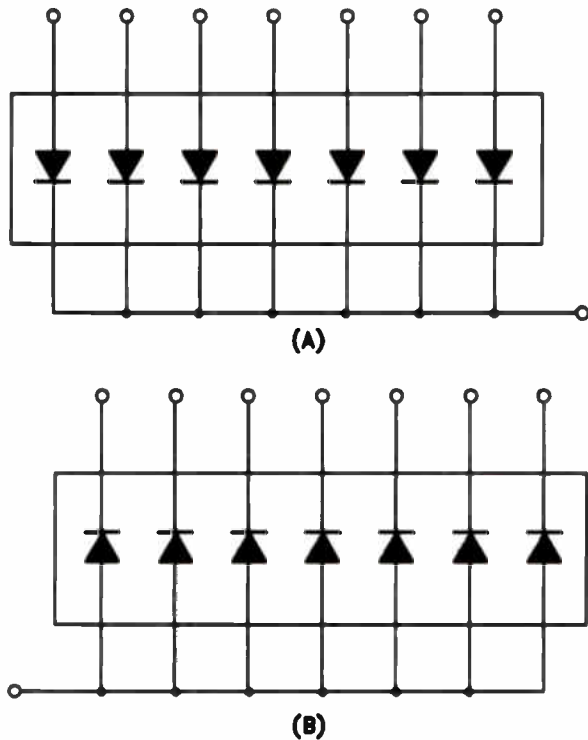

Figure 21. (A) Schematic of a common-cathode seven-segment display, and (B) schematic of a common-anode seven-segment display.
In a seven-segment display, the cathodes of all seven LEDs may be connected, as shown in Fig.21(A) on the next page. When the cathodes are connected, the display is referred to as a *common-cathode seven-segment display*. The seven-segment display can also be manufactured
with all the anodes connected, as shown in Fig.21(B). This type of display is called a *common-anode seven-segment display*.